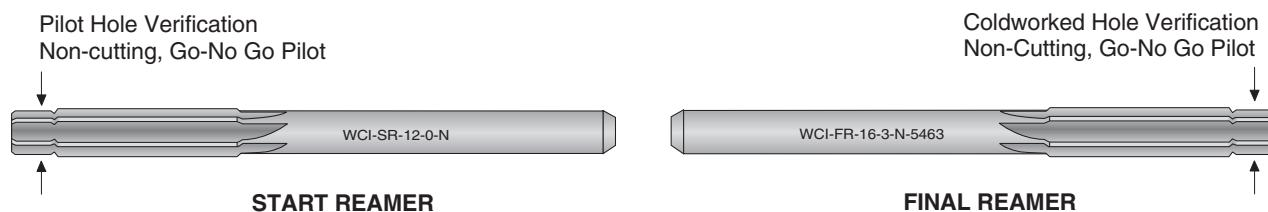

Figure 3-06 — Start and Final Reamers
- 3.11 **Start Reamer** — The start reamer is used to properly size the pilot hole prior to the coldworking operation. Ref. Fig. 3-06.
- 3.12 **Final Reamer** — The final reamer is used to properly size the post coldworked hole. The non-cutting pilot of a final reamer is the same diameter as the verification gage. If the hole has not been properly coldworked, the reamer pilot will not enter the post coldworked hole. Ref. Fig. 3-06.